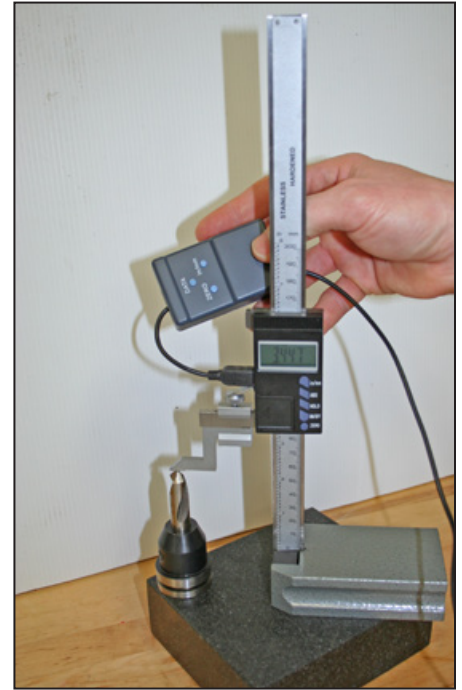

Figure 6.19
The Tormach Tool Assistant Set (PN 31988) includes an 8" digital height gauge and a USB interface cable with touch trigger (see **Figure 6.19**).
NOTE: Granite Surface Plate with Integrated Tool Hole (PN 31713), as shown in **Figure 6.19**, helps accurately measure tool length.
3. To measure tool height, mount the tool in a TTS tool holder and place on a block (see **Figure 6.19**). The tool height measurement is the distance from the block surface to the end of the tool tip.